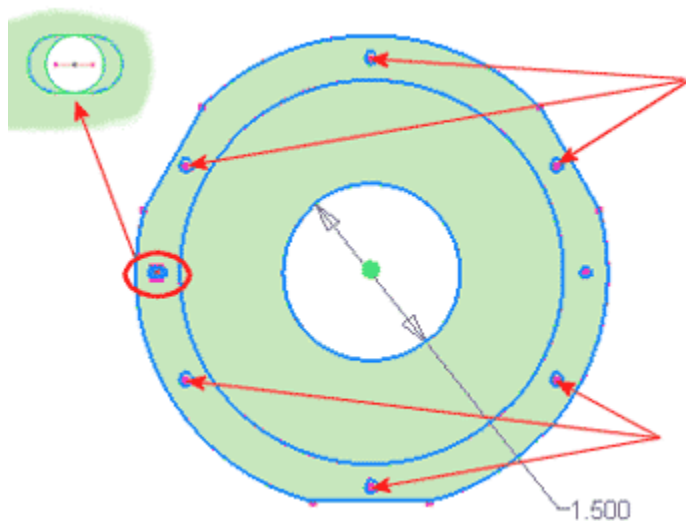

Figure 6: Profiles for sheet metal face.
1. Create a sheet metal face, selecting the two outer ring areas, the six tapped hole circles, and the outer profile of the projected slot as profiles (see Figure 6).